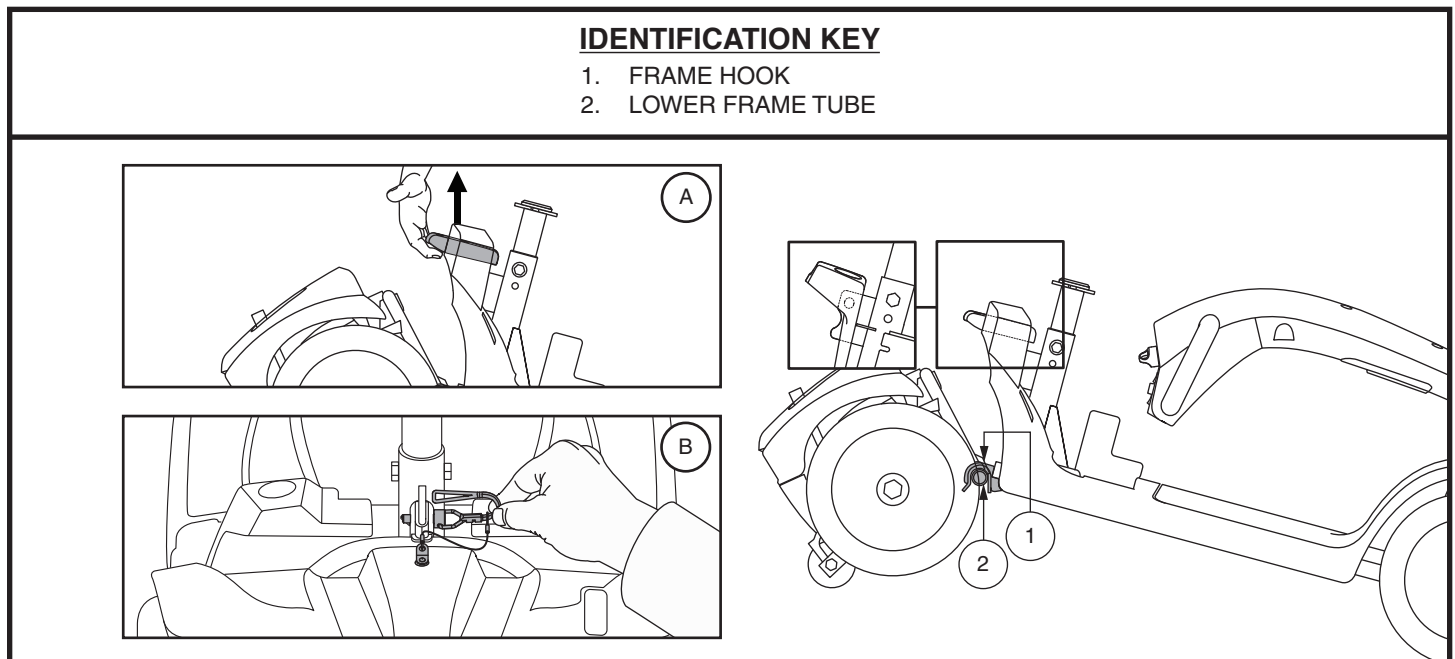

Figure 27. Frame Release Lever (Style A) and Frame Release Lockup Pin (Style B)
3. Remove the frame lockup pin (Model 104 only) See figure 27.
1. Position the front and rear sections of your scooter as shown in figure 27.
2. Use the frame release lever (or the seat post for model 104) to lift the front section as you align the frame hooks of the front section with the lower frame tube of the rear section. See figure 27.